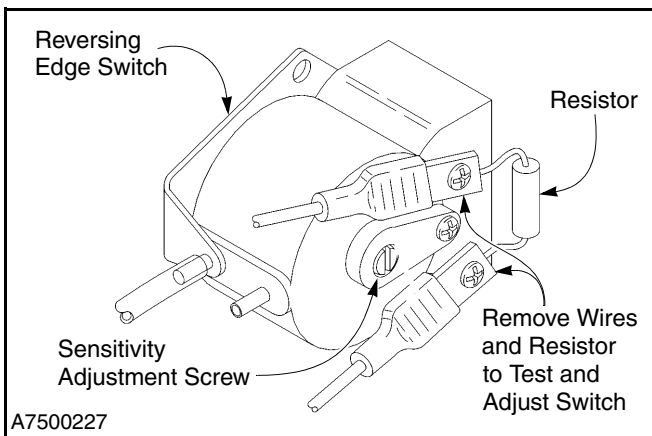

Figure 27
1. The reversing edge switch is a normally open contact. The PVC hose is on the lower air input post. To adjust the switch, first remove the wires and resistor from the contact terminals and attach an ohmmeter across the two terminals. (See Figure 27.)
2. Turn the adjustment screw, located on the face of the switch, clockwise or counterclockwise until continuity is achieved. Then turn the screw 3/4 turn counterclockwise. Ohmmeter should no longer show continuity. Turning the screw counterclockwise decreases sensitivity. Turning the screw clockwise increases sensitivity. (See Figure 27.)